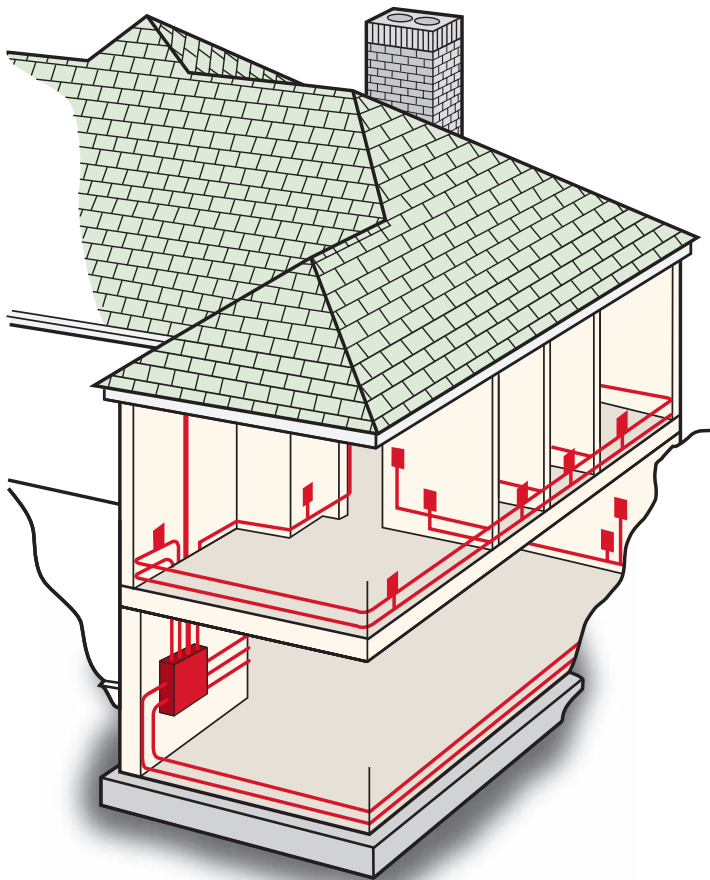

Figure 1-5 Three-dimensional view of house wiring.
The electrician must be able to: (1) convert the two-dimensional plans into an actual electrical installation, and (2) visualize the many different views of the plans and coordinate them into a three-dimensional picture, as shown in Figure 1-5.